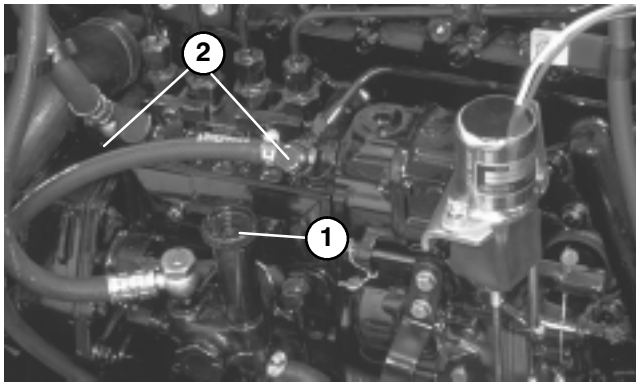

Figure 25
4. Rotate priming pump (Fig. 25) counter–clockwise until spring in pump assembly releases. Operate pump up and down until a solid stream of fuel flows out around filter plug and tighten plug.
5. Loosen air vent plug on injection pump about 1–1/2 turns (Fig. 25). Operate priming pump until solid stream of fuel flows from the vent hole (Fig. 25), then tighten air vent plug.